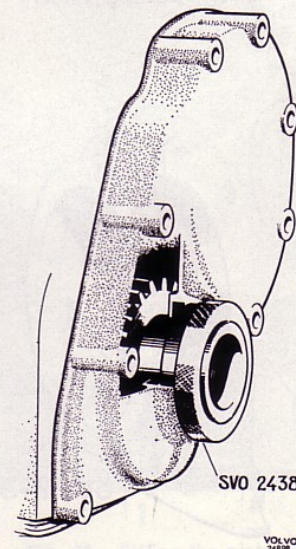

Bild 45. Centring the timing gear casing
6. Centre the casing with sleeve SVO 2438, see Fig. 45. Turn the sleeve while tightening and adjust the position of the casing so that the sleeve is not jammed. Check after final tighten-